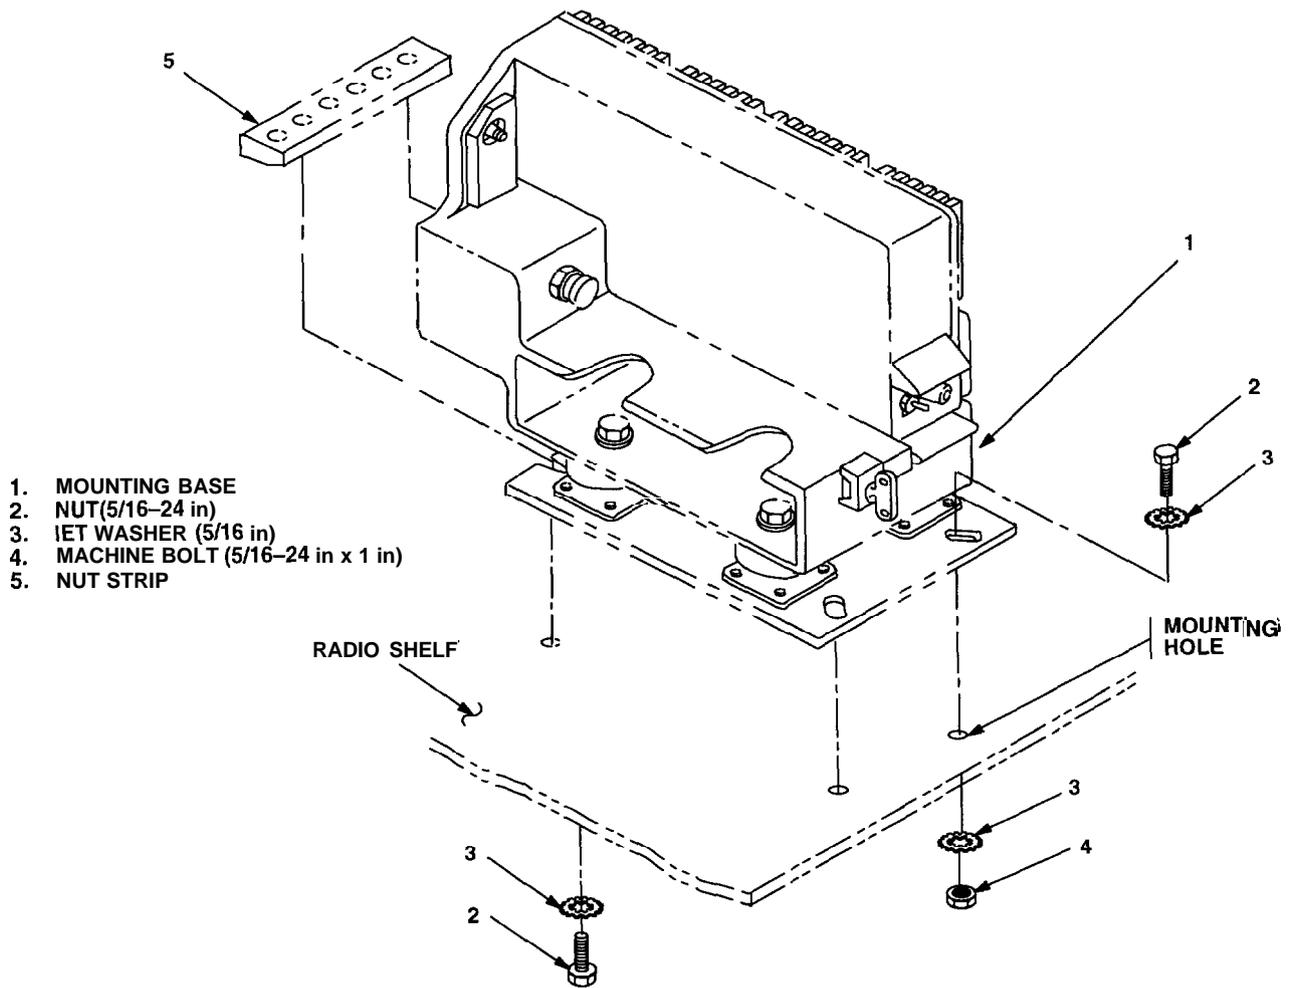

Figure 5-6. MT-6353/VRC Mounting Base Installation
a. MT-6353/VRC mounting	Place MT-6353/VRC mounting base (1) on radio shelf to right of the MT-6352/VRC mounting base. Align the center of the front mounting holes 2 1/2 inches from the front of the radio shelf. Align the center of the left front mounting hole 13 inches from the center of the right front mounting hole of the MT-6352/VRC mounting base (1) as a template to mark the four mounting holes to be drilled.
b. MT-6353/VRC mounting base (1).	Temporarily remove and drill the four mounting holes.	Tools: Electril drill and 11/32 inch drill bit.
c. MT-6353/VRC mounting base (1) and radio shelf	Remove a 2" square area of paint on the underside of the mounting base (1) around the front two mounting holes. remove a 2" square area of paint on the radio shelf around the two front mounting holes drilled in step b. Clean the paint removed areas and apply a thin coat of CASC.	Tools: Electric grinder or equivalent.
d. MT-6353/VRC mounting base (1).	Placea on radio shelf over holes drilled in . step b. See Figure 5-6.
e. MT-6353/VRC mounting base (1)	Align front holes and rear slots with matching hole pattern in radio shelf. See Figure 5-6.
f. Two machine bolts (2), two IET washers (3) and nut strip (5).	Install and secure to rear slots in in MT-6353/VRC mounting base (1) and radio shelf.	Tools: 1/2 in socket.
g. Two machine bolts (2), four IET washers (3) and two nuts (4).	Install and secure to front holes in MT-6353/VRC mounting base (1) and and radio shelf.	Tools: 1/2 in socket and 1/2 in open/box wrench.